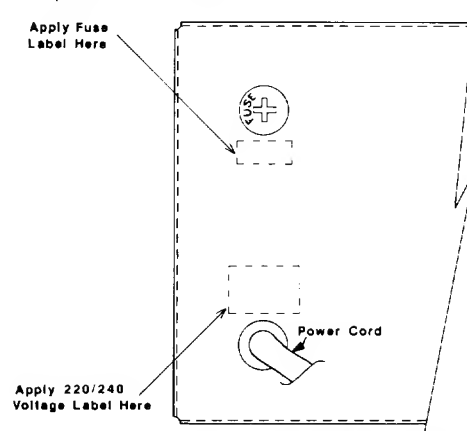

Figure 3. Application of International Stickers
8. Affix the 2-amp fuse/1707C, (4-amp/1715C) label over the original 3.5 amp/1707C, (7-amp/1715C silkscreened designation. Refer to Figure 3 for where to place the fuse label.